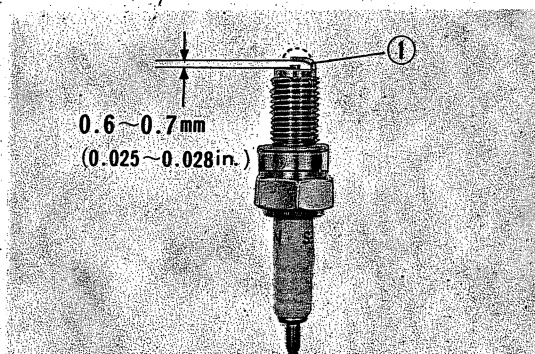

Fig. 11 ① Electrode
- 3) Check the gap between the electrodes with a thickness gauge and if necessary, adjust the ground electrode by bending. The standard clearance is 0.6-0.7 mm (0.025-0.028 in.). (Fig. 11)